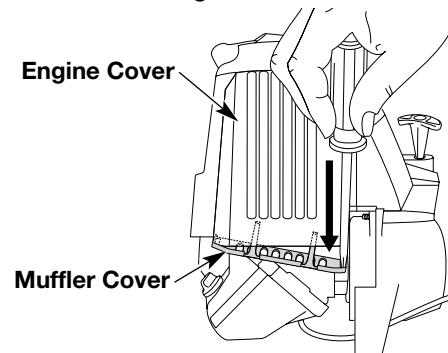

Fig. 49
1. Remove the muffler cover by pressing down on the corner with a flat blade screwdriver (Fig. 49). Slide the notches on the sides of the muffler cover over the tabs on the engine cover and remove
- Replace the muffler cover. Slip the long tabs on the muffler cover into the engine cover. Slide the notches on the side of the muffler cover over the tabs on the engine cover and snap into place (Fig. 49).